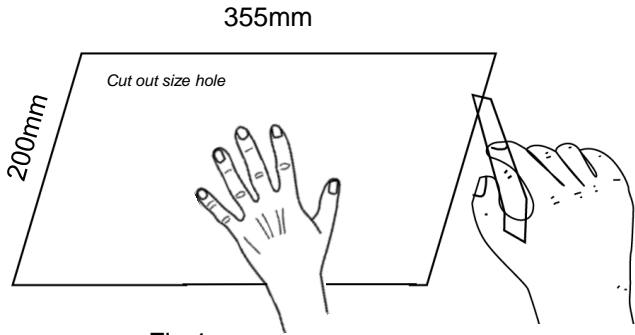

Fig.1
- 1) The recommended height of the installation is 2.4m. Before commencing installation remove the heat globes from the unit to prevent breakages. Before commencing cutting ensure that the area behind the intended location is clear of all cables, pipes and joists. Use the card provided as a template to mark the 'cut out hole' on the ceiling. The cut out hole size is 355mm x 200mm, ( Fig. 1) Once clear, cut out the section along the marked lines. The unit may be mounted either between joists using the inbuilt clip fasteners or against a joist using a screw through the flange plate.